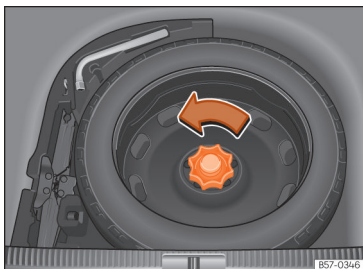

Fig. 235 In the luggage compartment: raised load floor.
- Turn the thumb wheel anticlockwise >>> Fig. 235.